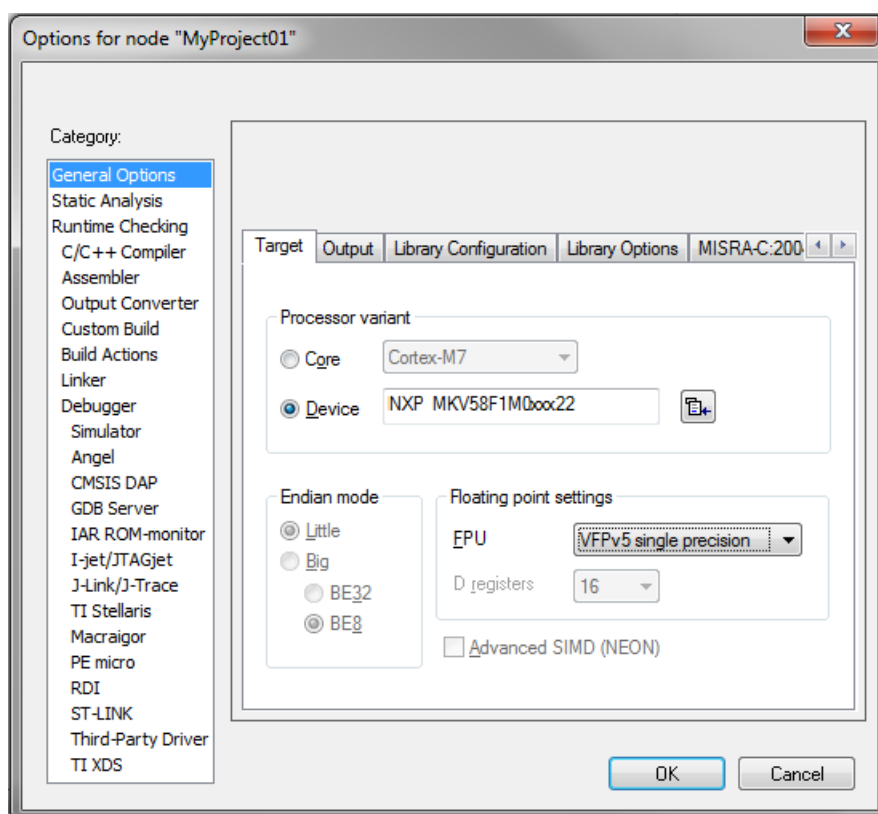

Figure 1-41. Options dialog
6. In the Target tab, select the Device option, and click the button next to the dialog to select the MCU. In this example, select NXP > KV5x > NXP MKV58F1M0xxx22. Select VFPv5 single precision in the FPU option. Click OK. See Figure 1-41.